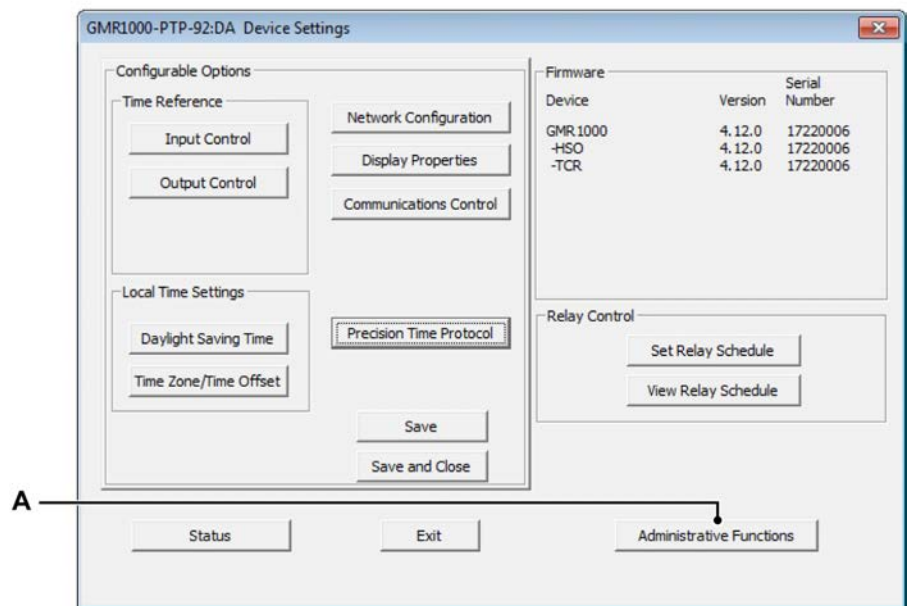

Figure C.25: GMR1000 PTP Device settings
- Finally, close the Advanced (data sets) and PTP - Precision Time Protocol windows. This will bring back the GMR1000 PTP device settings window (see Figure C.25).
- 8 As the IRIG signal contains no date, this needs to be entered manually. Open the **Administrative Functions** dialog with the **Administrative Functions (A)** button (see Figure C.25).